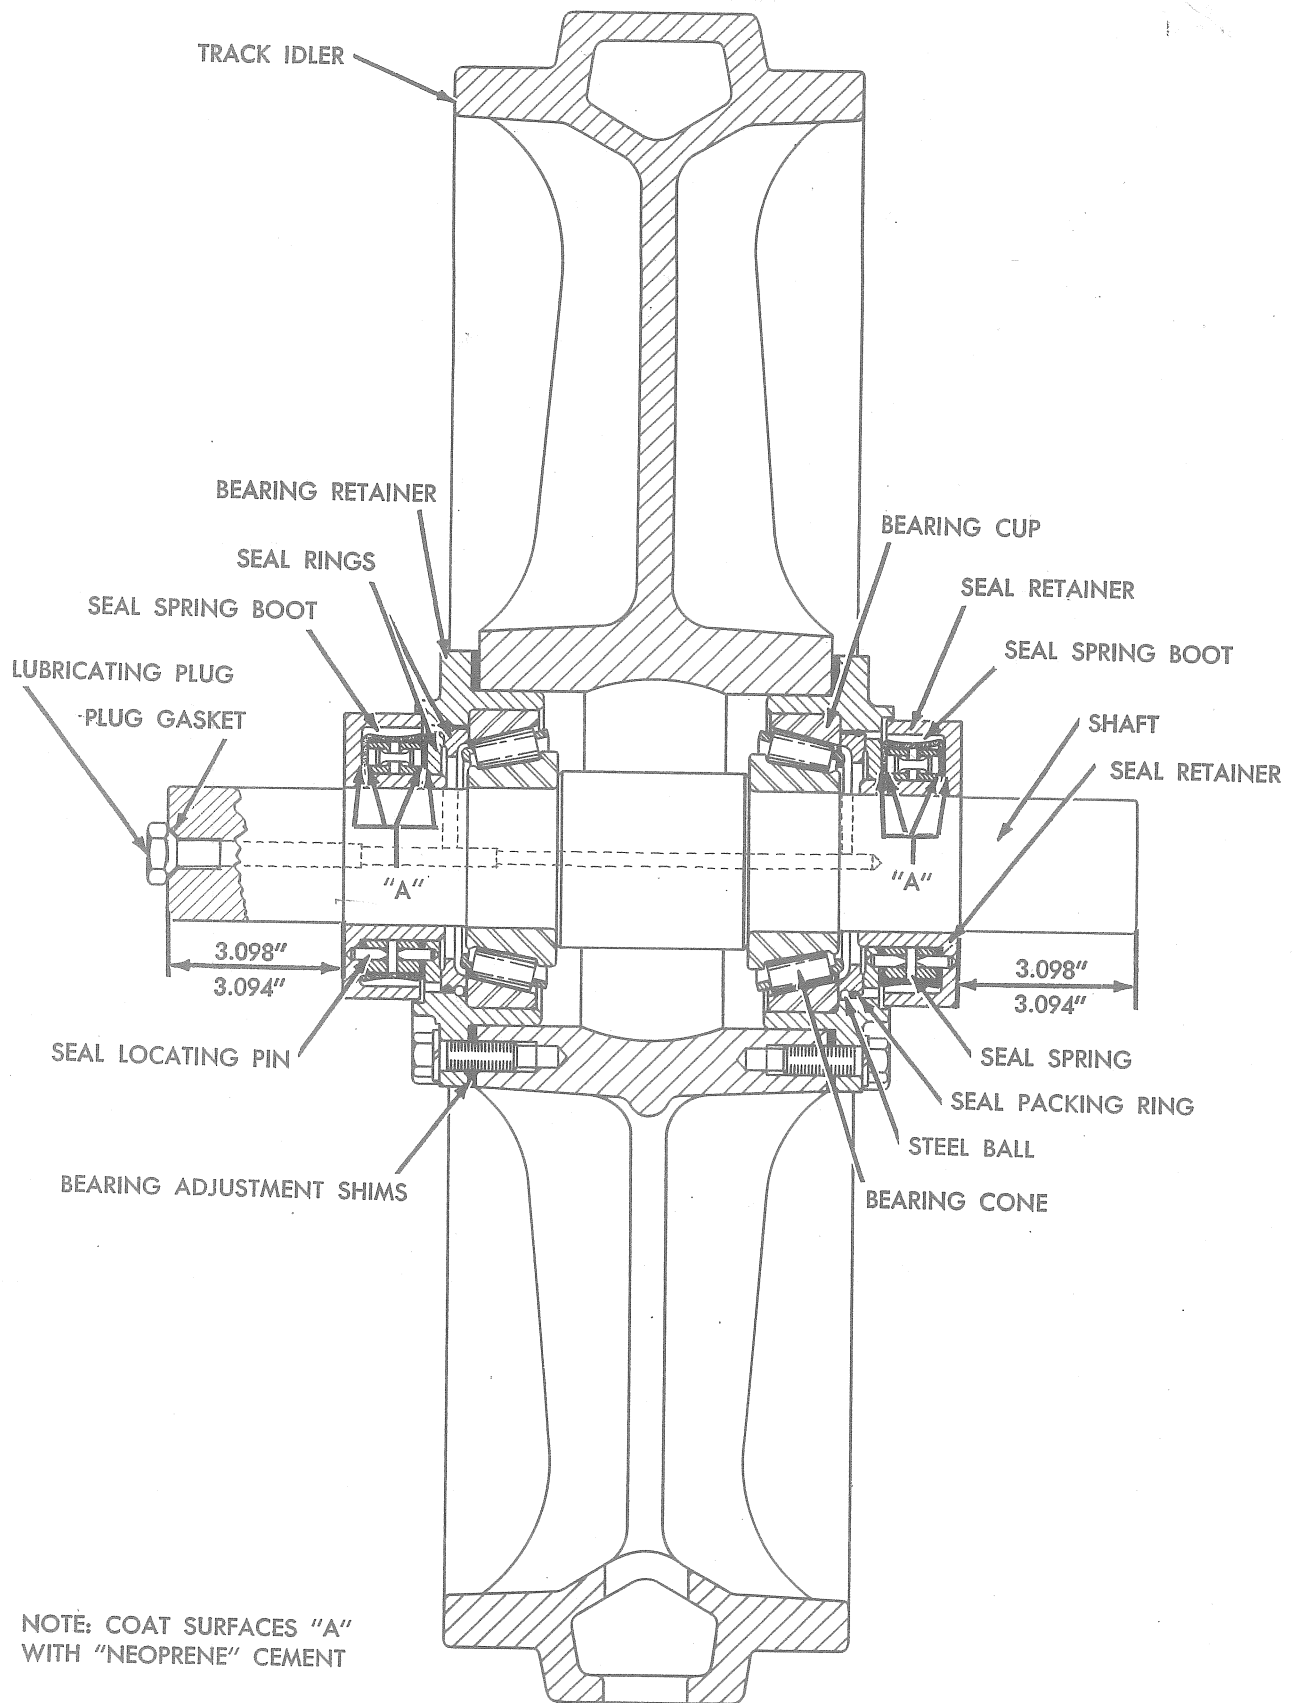

Fig. 20 — Track Idler — Sectional View
4. Examine the seal spring boot ("Neoprene") of each spring assembly and make certain that the seal boot is pliable and each boot is in good condition. Also make certain that the surfaces "A," Fig. 20 of the seal assembly components are firmly cemented together to avoid grease leakage.